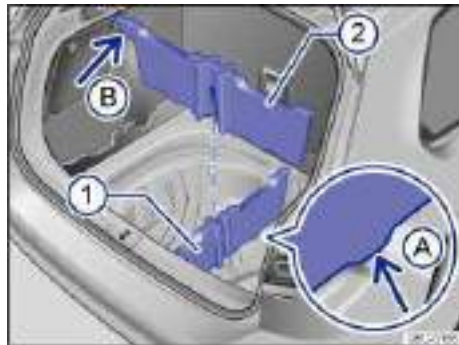

Fig. 101 In luggage compartment: Inserting the partitions in the spare wheel well.
The partitions ⇒ fig. 101 (1) and (2) for the storage compartments can be lifted out.